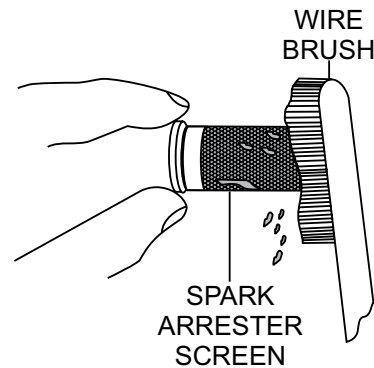

Figure 29. Cleaning The Spark Arrester
4. Carefully remove carbon deposits from the spark arrester screen (Figure 29) with a wire brush.